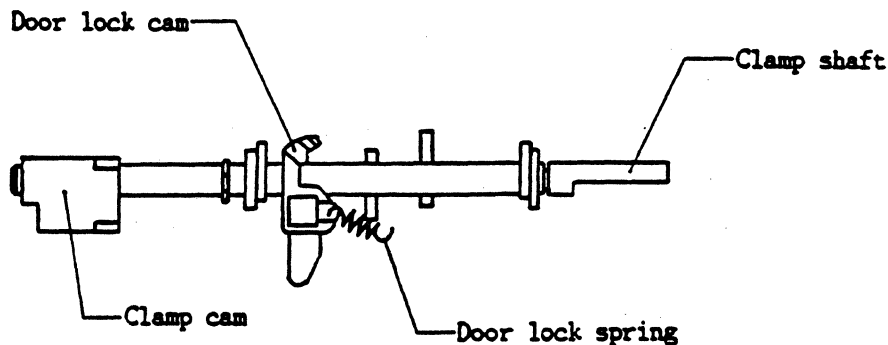

Figure 4-25 Clamp Cam Assembly
2. Remove the Bezel's screws (item S13) and then the Bezel (item 41) by pulling it forward.
3. Remove the door lock spring, remove the E-ring, and remove the clamp cam assembly (item 31).
5. Adjust the slack in the clamp shaft to 0.05 - 0.2mm by using washers (item S20). Coat the part that contacts the clamp cam and set arm (item 28) with lubricant.
**Note:** When there is a head load mechanism, the door lock cam and door lock spring, shown in Figure 4-25, are omitted.